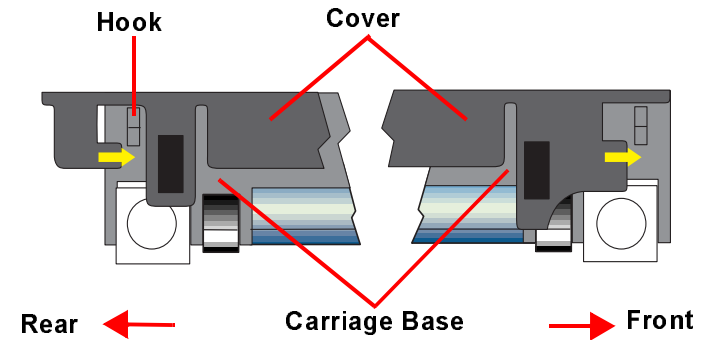

Figure 4-22. Lamp Assembly and Inverter Board Assembly Removal
2. Move the CR to the position indicated in Figure 4-22 (the position where the front and rear frames are indented).